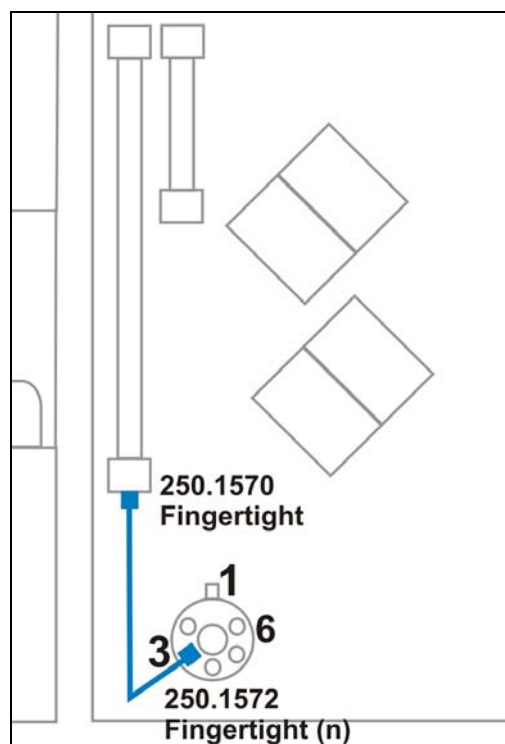

Figure 15. Assembly W: Connection between valve - 2nd column.
Assembly W is used to connect the second HPLC column to port 3 of the CS valve located inside the oven compartment of the DECADE II , as depicted in figure 15. Connect one tubing end to port 3 of the CS valve using the narrow-head fingertight (p/n 250.1572).
13. **Assembly G' DECADE II inlet assembly micro (p/n 180.0232):** assembly G' is used to connect the second HPLC columns to the corresponding flow cell as depicted in figure 15. Connect one end of the PEEK tubing to the outlet of the HPLC column using the supplied PEEK finger tight (p/n 250.1570).